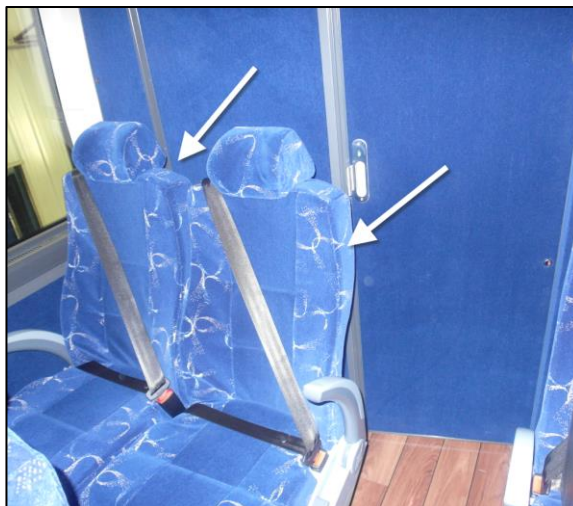

FIGURE 2
3. Locate last row of passenger seats on the RH side of the vehicle (Figure 2).